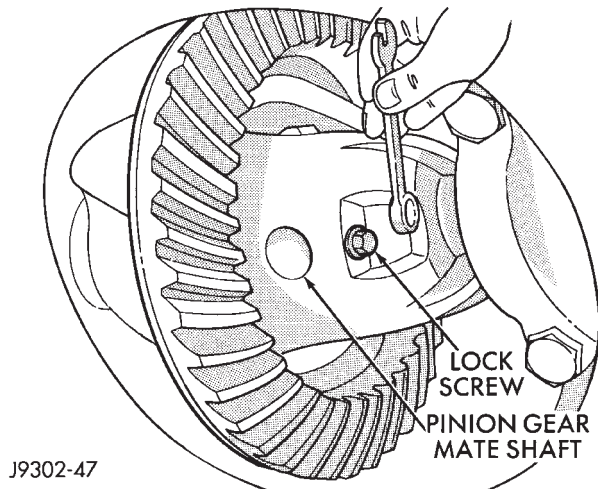

Fig. 19 Mate Shaft Lock Screw
(4) Clean all foreign material from housing cover area.
(5) Loosen housing cover bolts. Drain lubricant from the housing and axle shaft tubes. Remove housing cover.
(6) Rotate differential case so that pinion mate gear shaft lock screw is accessible. Remove lock screw and pinion mate gear shaft from differential case (Fig. 19).